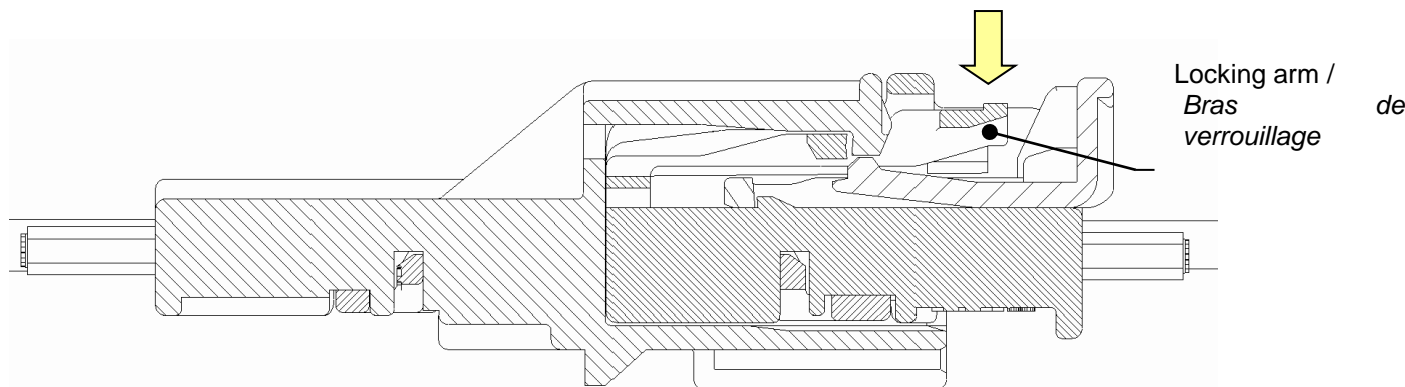

Figure 69 Locking arm activation / Activation du bras de verrouillage
- Push the locking arm on the female connector in direction of the arrow as shown on Figure 69 to disengage the locking between male and female side;